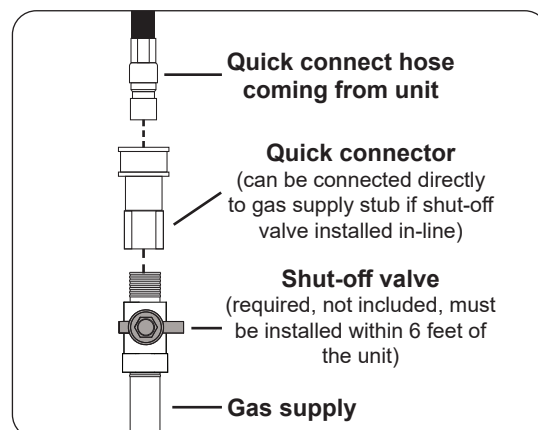

Fig. 3-5 Connect hose to gas supply
2. Connect the quick connect hose to the shut-off valve OR gas supply using a pipe joint compound resistant to all gasses (see Fig. 3-5). Tighten securely.